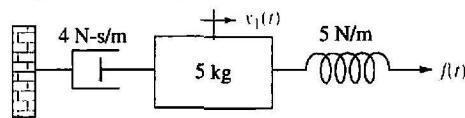

FIGURE P2.9
23. Find the transfer function, $G(s) = X_1(s)/F(s)$, for the translational mechanical system shown in Figure P2.9. [Section: 2.5]